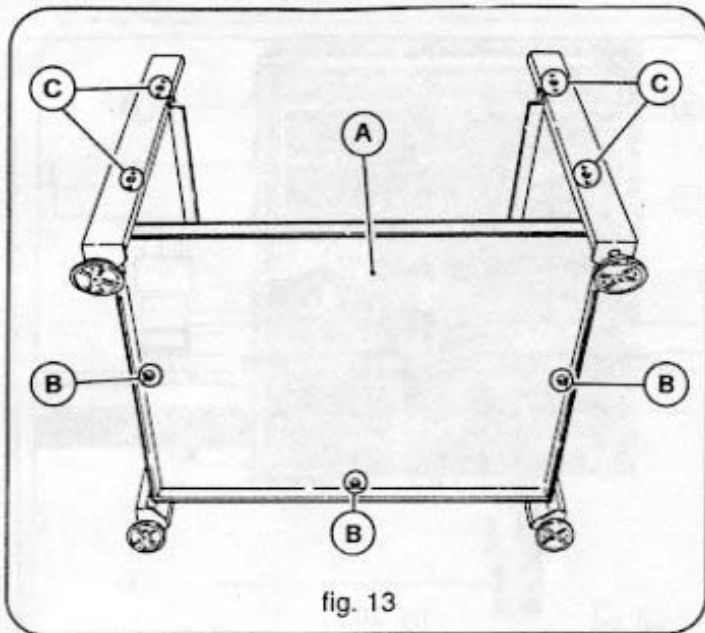

fig. 13
- Attach the surface A (fig. 13) to the legs using 8 M6x16 screws; make sure that the holes B are correctly aligned with the clip-on receptacles C.